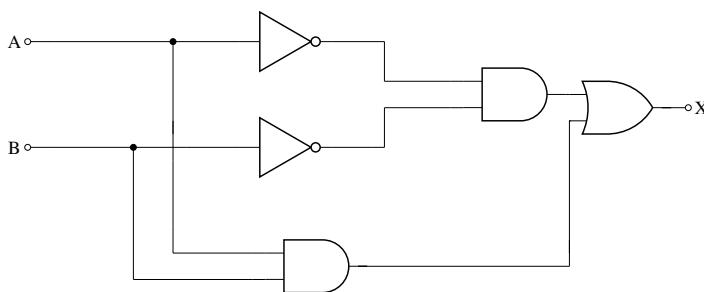

Fig. 3.32: Logic Gate Structure
50. A and B are logical inputs and X is the logical output shown in Fig. 3.32. The output X is related to A and B by